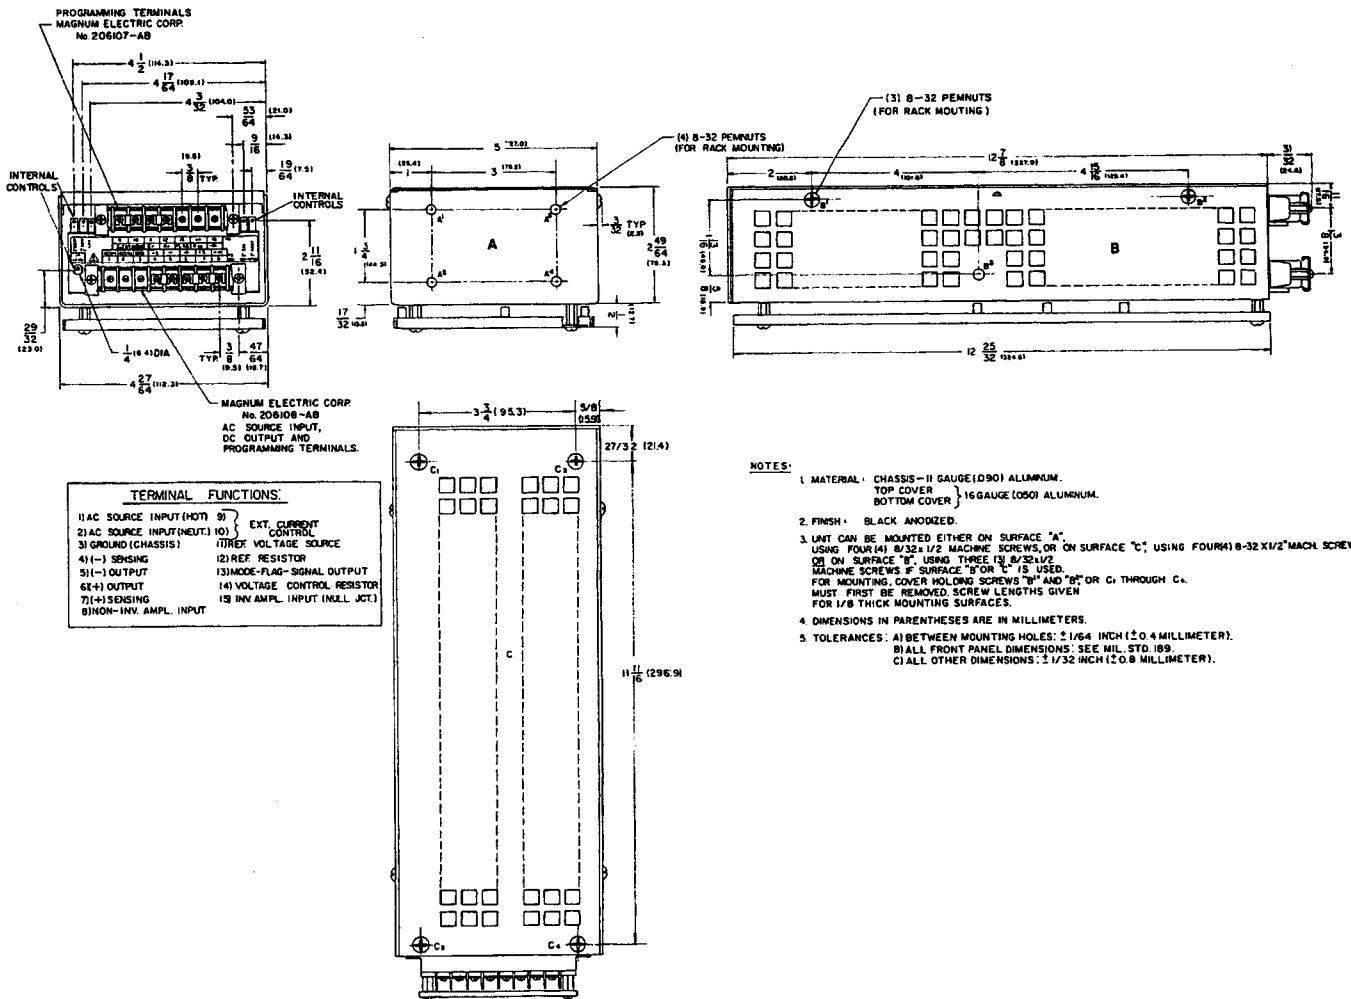

FIG. 1-2 MECHANICAL OUTLINE DRAWING
- a) See Mechanical Outline Drawing, FIG. 1-2.